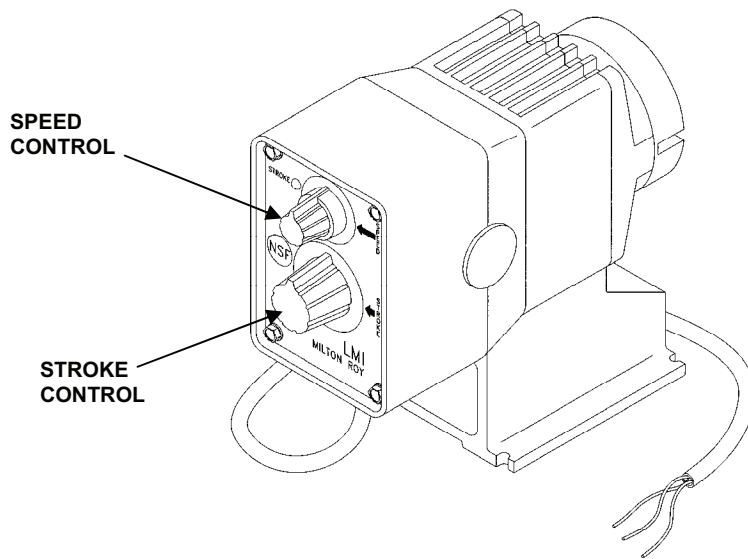

Figure 8. Chemical Injection Pump Front.
4. After the pump is primed, adjust the STROKE control knob to 60. See Figure 8.